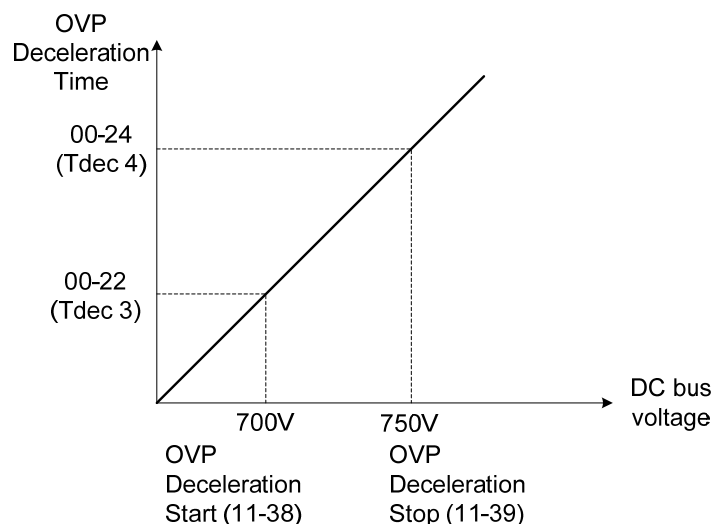

Figure 4.3.92 OVP Deceleration time
- . When the recovery energy decreases, the inverter output will return to the input frequency reference, and the deceleration rate is determined according to the DC voltage, as shown in Figure 4.3.92.
- 3). When the inverter is stopped, the deceleration rate can be set by 00-15 (Tdec1). When the DC voltage is too high, the inverter will slow down and perform operation based on the OVP deceleration time in Figure 4.3.92.